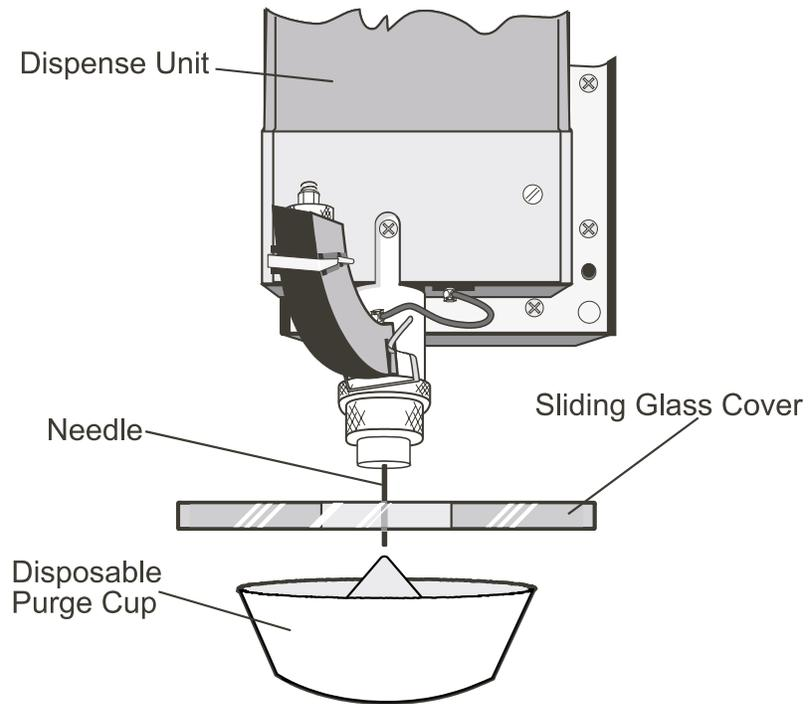

Figure 6
7. Select the **Trackball Z** button. Using the trackball, lower the needle of the dispense unit through the hole in the sliding glass cover. Lower the needle into the hole until the needle is below the top surface of the sliding glass. See Figure 6.